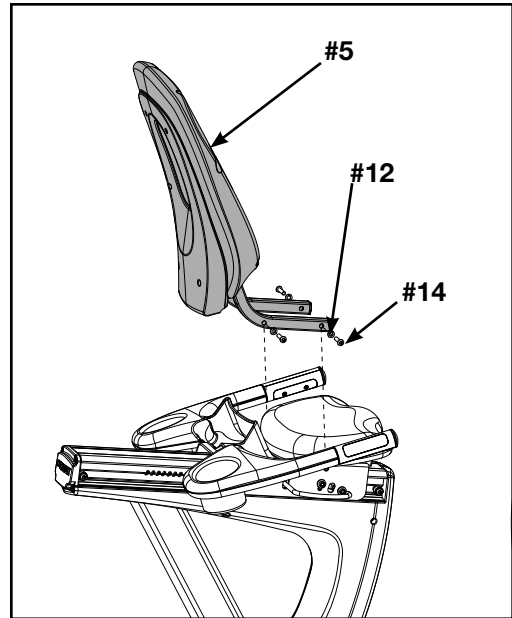

Figure 2
- A. Locate the seat back assembly (#5) four screws 5/16-18 x 1.50" (#14) and four washers 5-16" (#12). See Figure 2.
- B. Place the seat back assembly (#5) in the correct position and hand thread each of the screws 5/16-18 x 1.50" (#14) and four washers 5/16" (#12). See Figure 2.